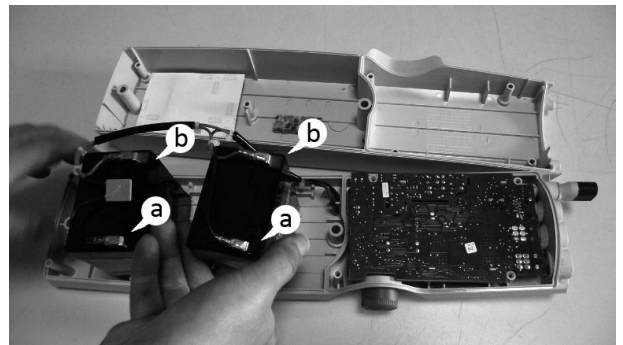

Figure 3
6. Connect new batteries with the cables. Use the shorter cables for the closest battery. See figure 3.